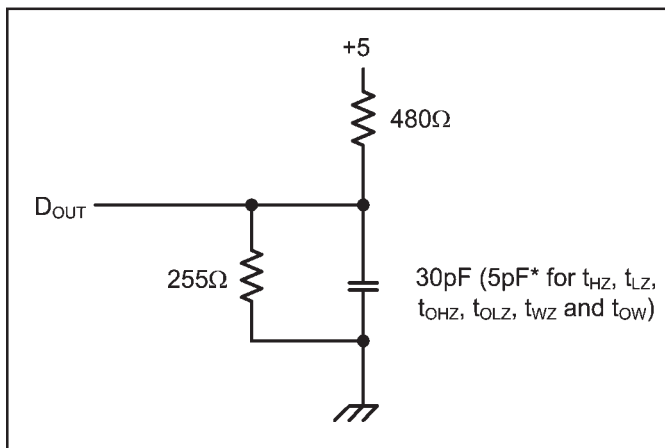

Figure 1. Output Load
- 8. Transition is measured $\pm 200mV$ from steady state voltage prior to change, with loading as specified in Figure 1.
Output Load	See Figures 1 and 2